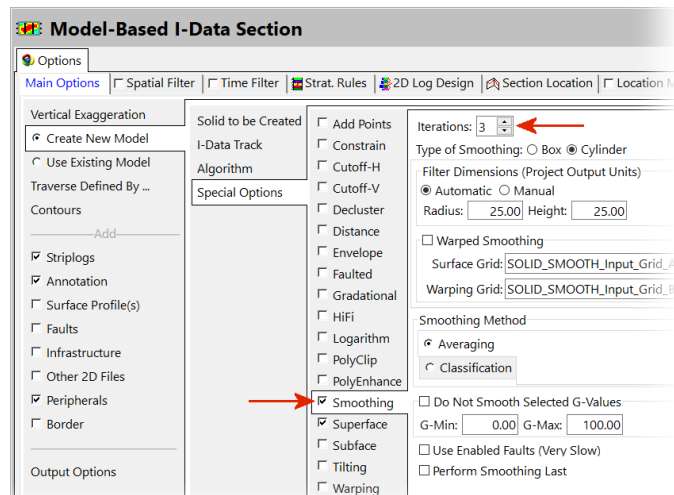

Figure 78
- Select the *Special Options* and enable the *Smoothing* option (Figure 78) and set the *Iterations* (smoothing passes) to 3. This will produce a section that is less “blocky”.